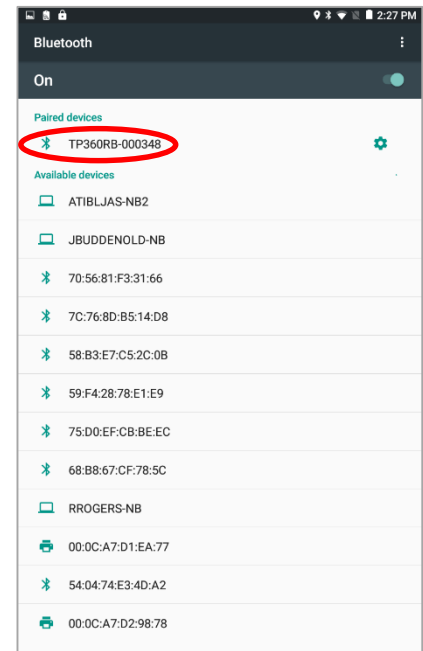

Figure 4
4. Confirm the laser is paired to the device and press the device’s **Back** key to exit (Figure 4)